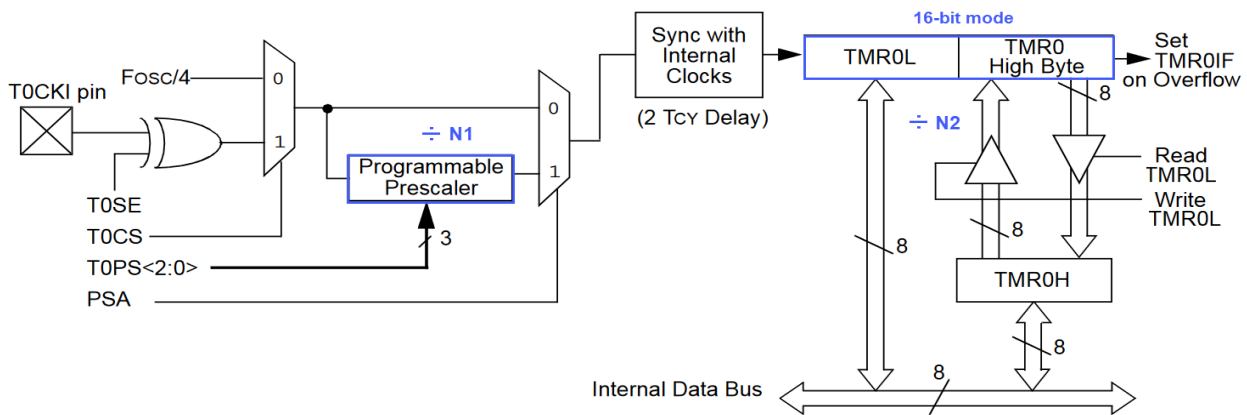

Fig. 2.
- Use the TMR0 in 16-bit mode of operation (shown in Fig. 2) for designing a frequency meter instrument for measuring unknown frequencies up to 5 MHz. The gate time $T_G = 50\text{ ms}$, when the counter is enabled, is derived from an external signal. Discuss the specifications and propose a plan including hardware and software schematics and diagrams.